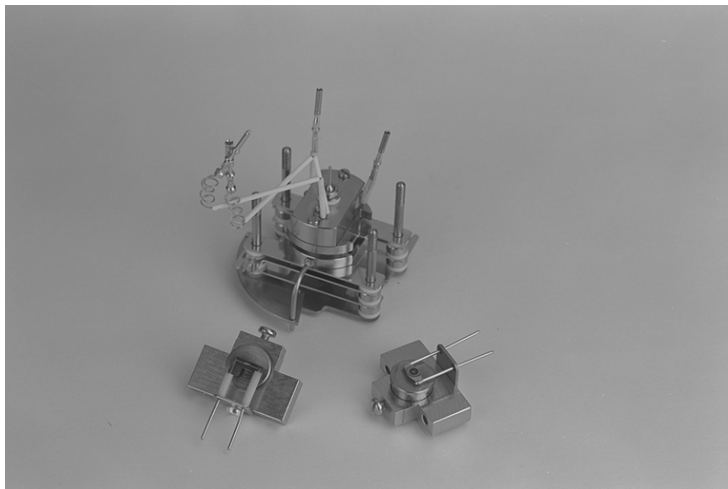

Figure 4-12. Magnet assemblies removed
5. Slide the magnet assemblies off, noting which is top and bottom (see Figure 4-12). The filament is always adjacent to the North Pole.